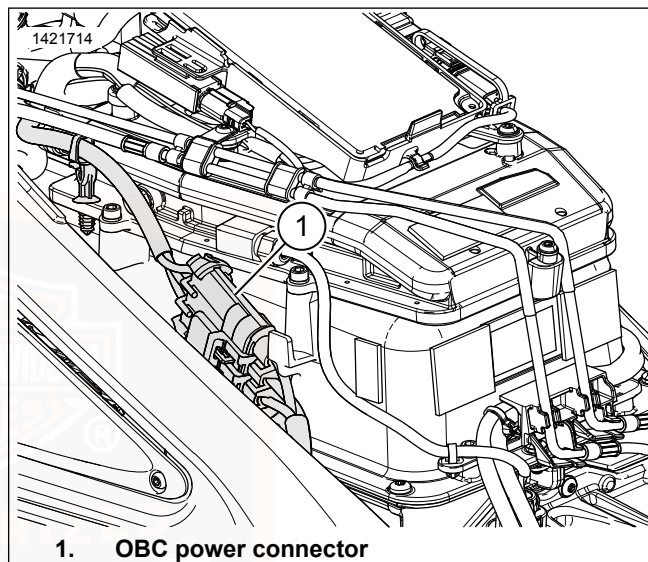

Figure 28. OBC connector
8. See Figure 28. Disconnect On-Board Battery Charger (OBC) power connector.